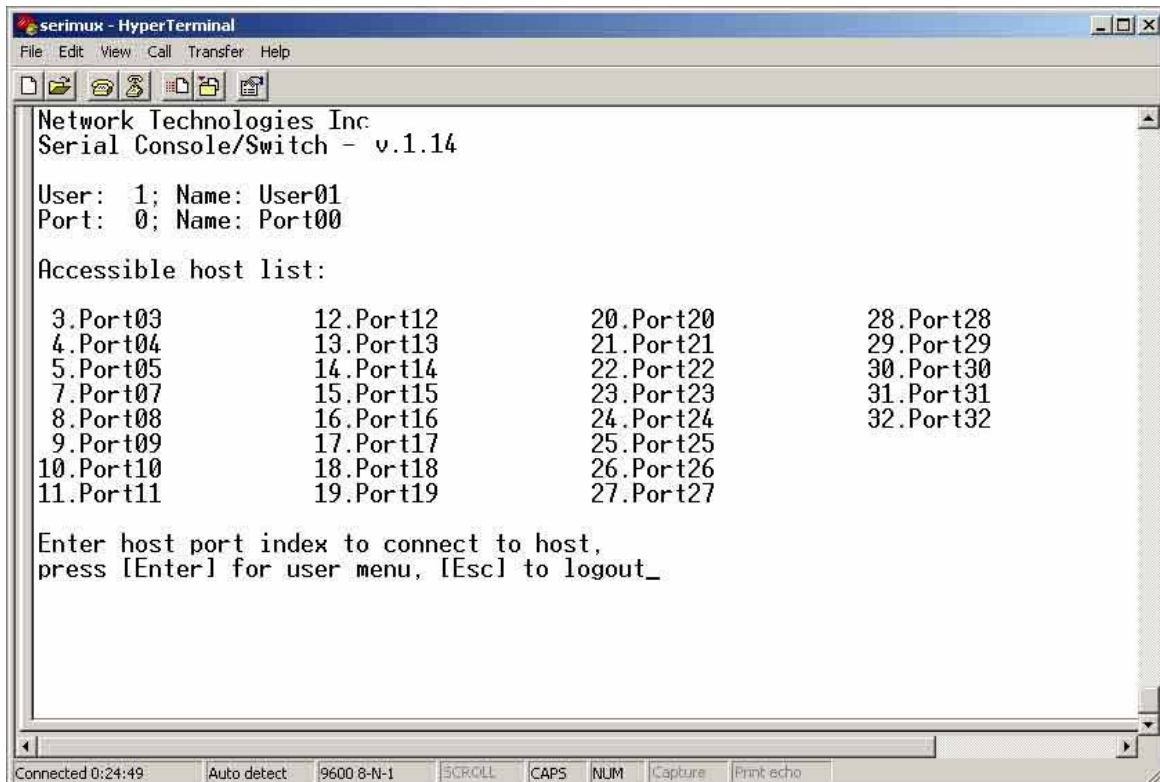

Figure 6- Startup- Accessible host list
4. Press [Enter] on the keyboard and wait 3 seconds to be recognized as the default SERIMUX user. The "Accessible host list" for "User01", logged in at "Port00" will be displayed (see Figure 6). By default, all ports are configured as Host ports and all are accessible.